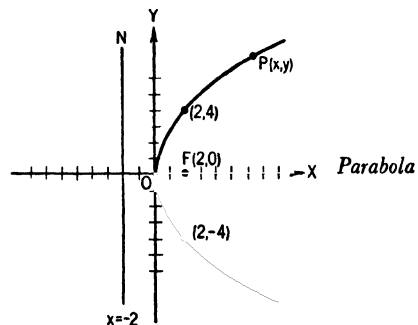
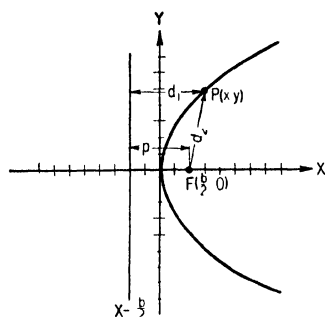

FIG. 268. PARABOLA
FIG 269 PARABOLA IN STANDARD POSITION
The *parabola* is the locus of all points which are the same distance from a given point as from a given line. An example of a parabola is given in Fig. 268. Here the given point marked F is the point $(2, 0)$ and the given line is the line $x = -2$. The points $(2, 4)$ and $(0, 0)$, as well as $(2, -4)$, are on this parabola because they are the same distance from the line $x = -2$ as from the point $(2, 0)$.
Following the notations of Fig. 269 we let $P(x, y)$ be a point on the parabola, d_1 being the distance from P to the line $x = -2$, and d_2 the distance from P to the point $(2, 0)$. From the figure you can see
We shall take the focus F at the point $(\frac{p}{2}, 0)$ in Fig. 269, and the directrix D to be the line $x = -\frac{p}{2}$. The vertex is now at the origin, as in the example above. The derivation of the equation of the parabola is the same as in the example of Fig. 268. We have
The latter is the *standard equation* of the parabola. The parabola of Fig. 269 is in *standard position*. Note again that $\frac{p}{2}$ is the distance from the vertex to the focus.
As the abscissa of the point P of Fig. 269 increases, the ordinate also increases so that P rises as we move to the right. You can see that P will rise forever as you go to the right. In a similar way the lower half of the parabola diverges steadily from the x axis.
A cross section of the searchlight taken through the axis of the searchlight yields a parabola which we place in standard position as in Fig. 269. The equation of the parabolic section is thus (80) for some value of p . Using an inch as the unit of measure, the point (10, 12) is known to be on the parabola. Substituting the coordinates of this point in equation 80 and solving for p we obtain $p = \frac{36}{5}$. Then $\frac{p}{2} = \frac{18}{5}$. The light source must be placed at the focus $(\frac{18}{5}, 0)$, which is 3.6 in. from the vertex.